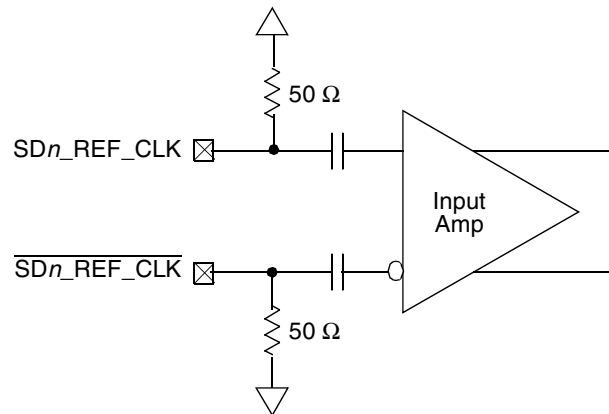

Figure 30. Receiver of SerDes Reference Clocks
Figure 30 shows a receiver reference diagram of the SerDes reference clocks.
- The SDn_REF_CLK and $\overline{SDn_REF_CLK}$ are internally AC-coupled differential inputs as shown in Figure 30. Each differential clock input (SDn_REF_CLK or $\overline{SDn_REF_CLK}$) has a $50\text{-}\Omega$ termination to SGND followed by on-chip AC-coupling.